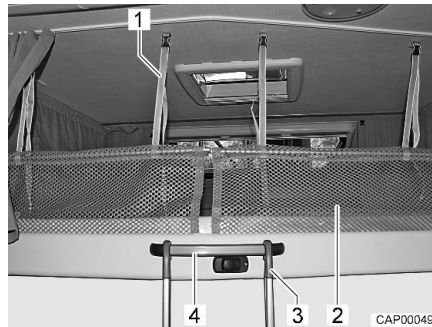

Fig. 51 Access ladder and safety net
- Hook the access ladder (Fig. 51,3) to the pull-down bed by attaching the two hooks to the curved handle (Fig. 51,4).
The safety nets (Fig. 51,2) with the retaining straps are stored under the mattress. Only use the safety nets if persons are already in the pull-down bed.
- Fasten the retaining straps (Fig. 51,1) to the holders on the ceiling.